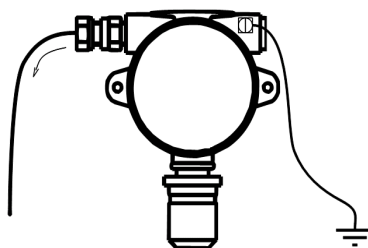

Figure 11: Grounding connection and correct cable laying
-  properly lay the cable so that it is not influenced by mechanical stress and the possibility of getting into the water sensor flowing down the wrongly laid duct – see Figure 11,
Ground the detector by connecting the cable to the ground terminal (see Figure 11). Use a cable with a cross-section of at least 0.5 mm².